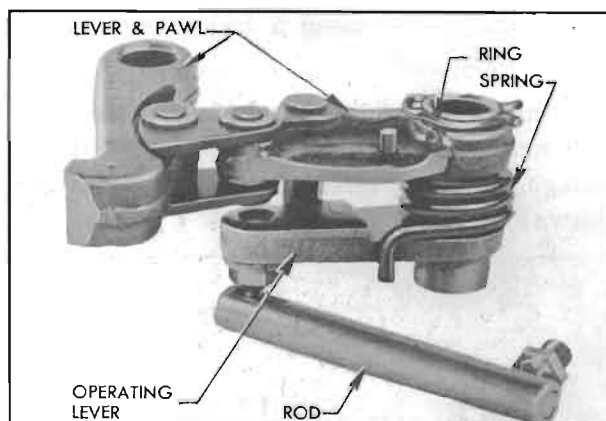

Figure 5-88—Parking Lock Pawl and Lever Assembly
5. If any parking lock parts need to be replaced, remove the retainer and separate the parts. When reassembled, the parts must be located as shown in Figure 5-88.